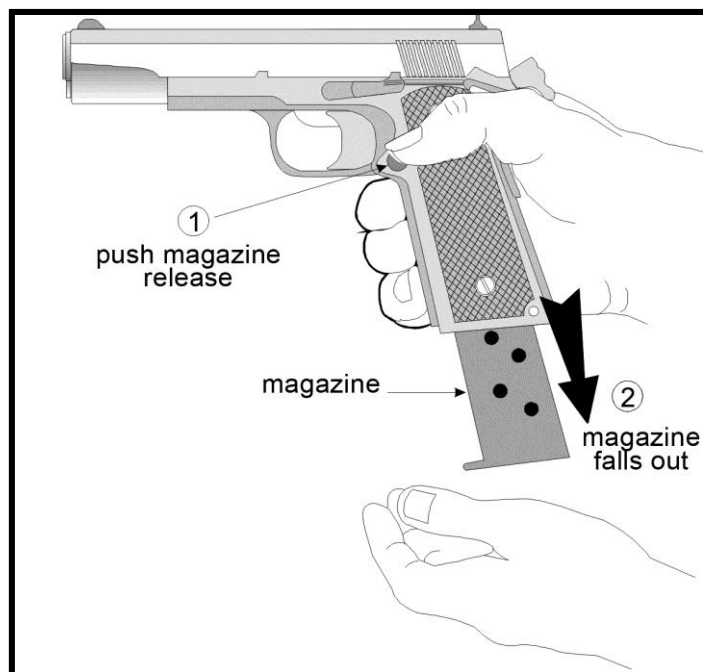

Figure 116. Removing the Magazine from a Semi-automatic
- Push the magazine-release button (Figure 116) to remove the magazine (the source of all the ammunition except for possibly one chambered cartridge).